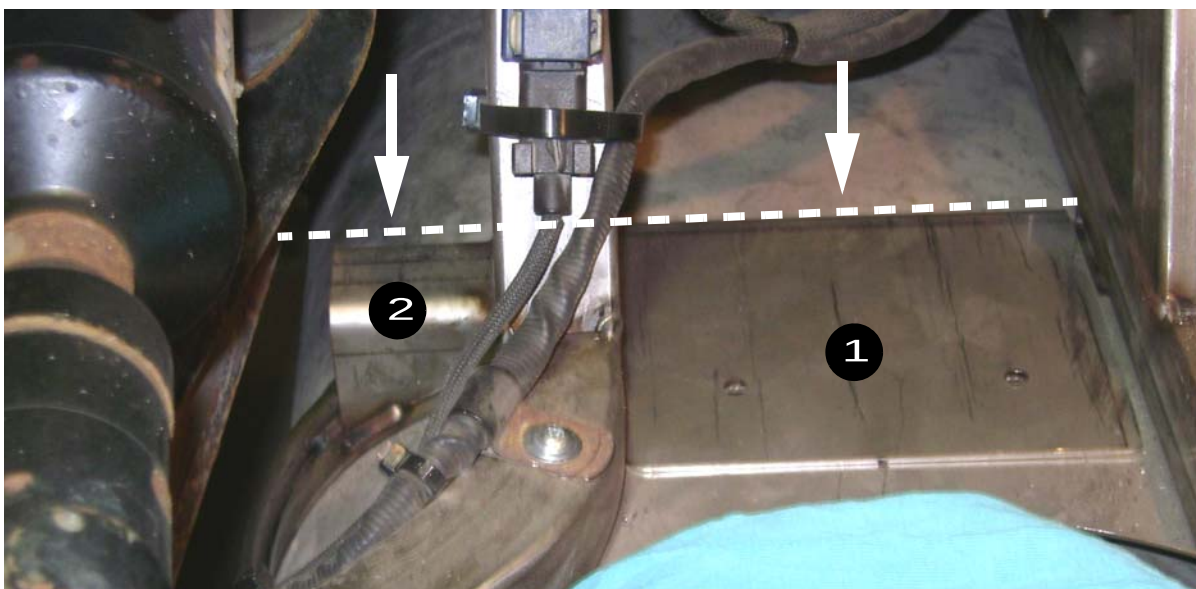

Figure 5.
9. Orient the drill template, p/n 20-08-0045, over the back end of the tubing shown in Figure 5. Pull template against the tubing, ensuring there is no gap.